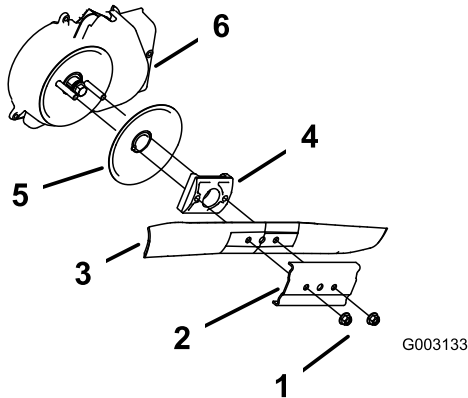

Figure 30
3. Remove the 2 blade nuts and the stiffener (Figure 30).
4. Remove the blade (Figure 30).
5. Remove the blade driver and disk (Figure 30).
6. Remove the blade-brake-clutch shield (Figure 30).
10. Install the blade and the stiffener that you previously removed (Figure 30).